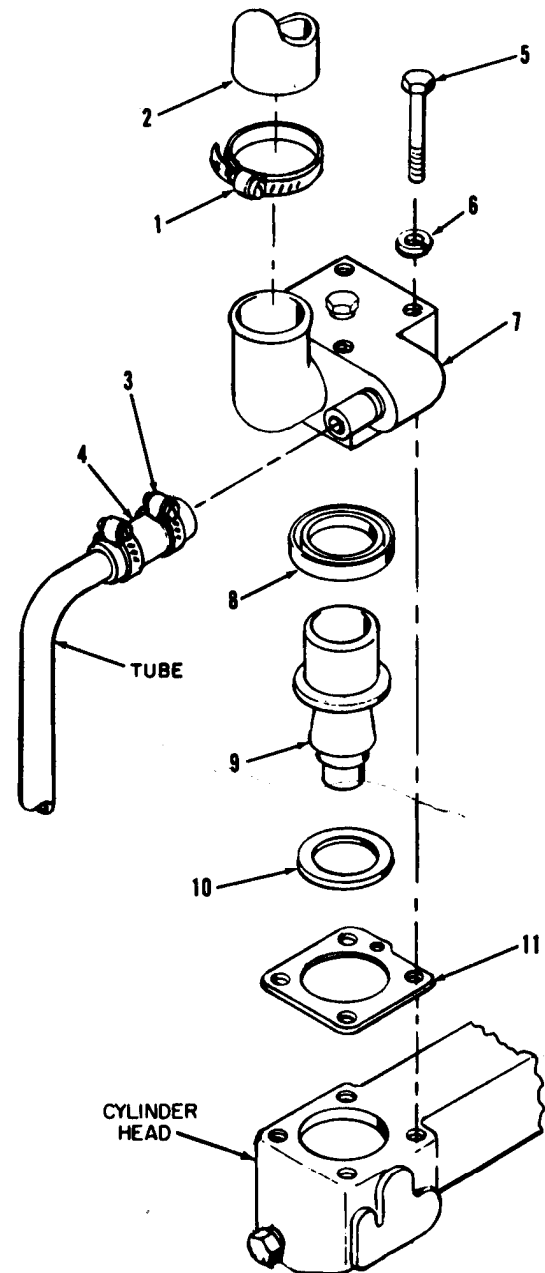

Figure 3-39. Coolant temperature regulator, removal and installation
b. REMOVAL. Remove coolant temperature regulator in sequence illustrated in figure 3-39, observing the following:
Legend to figure 3-39:
e. **INSTALLATION.** Install coolant temperature regulator in reverse sequence illustrated in figure 3-39, observing the following: